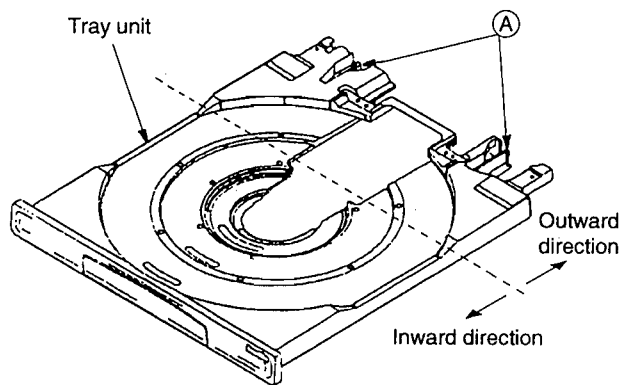
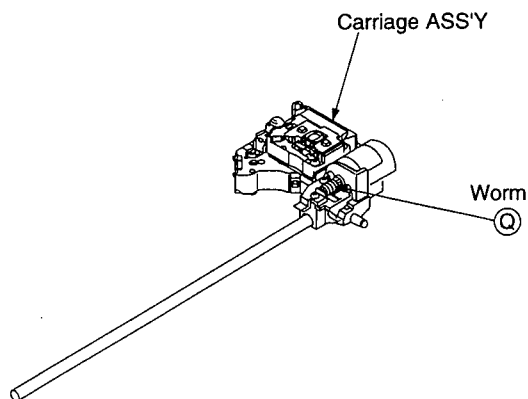

Fig. 1-1 Tray unit
Fig. 1-3 Carriage assembly
2. Pull out the tray unit while pressing the hook (A) (Fig.1-1), located on the rear right and left side of the tray unit, to the each inner side.
2. Make sure that the position of the lens in the carriage assembly is such that the lens stops outside the position indicated by the dotted line in Fig. 1-1.
When the lens stops inside the dotted line, slowly turn the worm (Q) portion of the carriage assembly (Fig. 1-3) to move the lens in the carriage assembly until the lens is outside the position indicated by the dotted line in Fig.1-1. Perform it using the belly of a finger not to damage the worm by the nail.
3. Slowly turn the worm ⑩ portion of the carriage assembly (Fig. 1-3) to move the lens in the pickup assembly until the lens is outside the position indicated by the dotted line in Fig. 1-1.